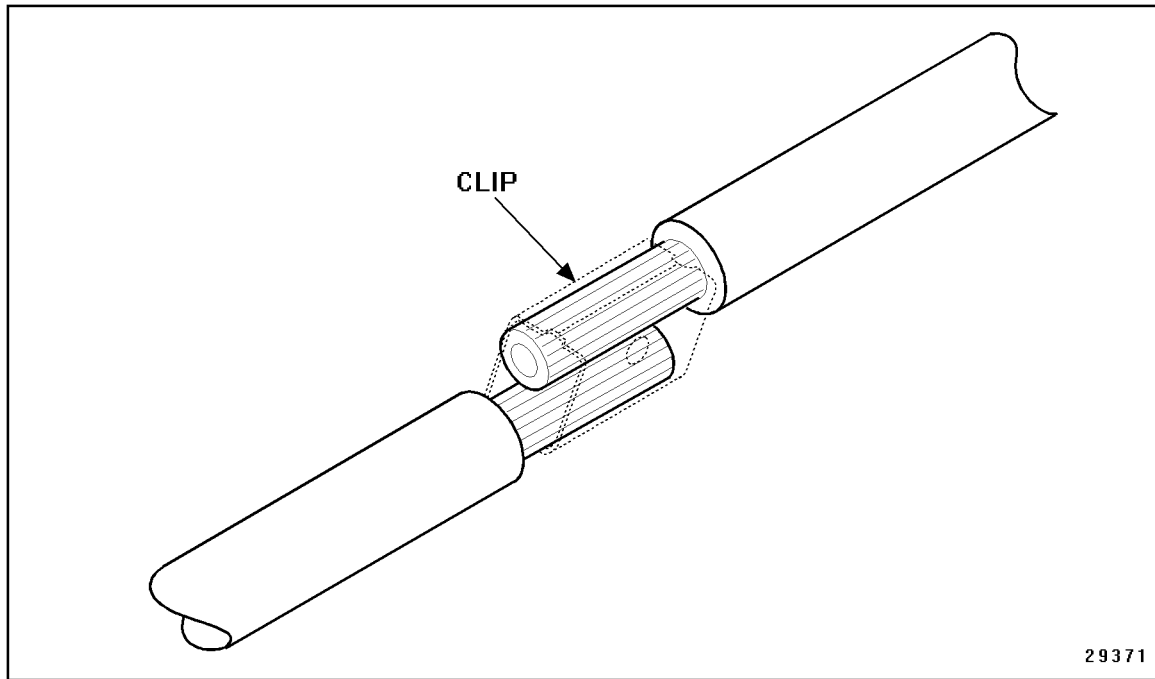

Figure 8-31 Securing Leads with Clip
2. Secure the leads with a commercially available clip and hand tool. See Figure 8-31.